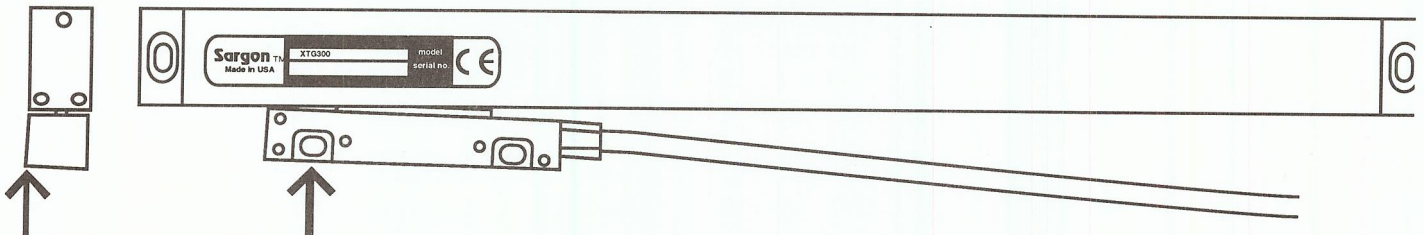

figure 4. examples of cocked encoder boxes
- Do not cock the encoder box. Parallelism must be maintained.¹ See Figure 4.